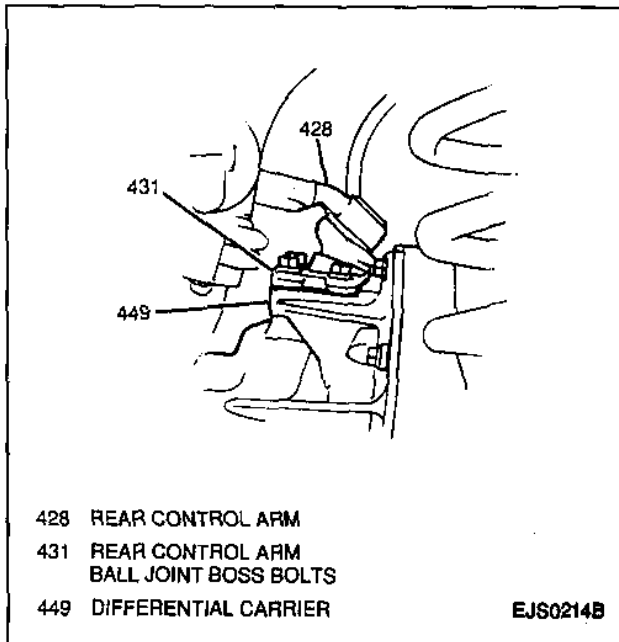

Figure 21—Removing Rear Control Arm Joint Boss Bolts
11. Four bolts from rear control arm ball joint boss and separate rear control arm ball joint boss from differential carrier (Figure 21).
5. Rear control arm ball joint boss to differential carrier; secure with four bolts (Figure 21).
16. Four bolts at rear control arm ball joint boss and separate rear control arm ball joint boss from differential carrier (Figure 21).